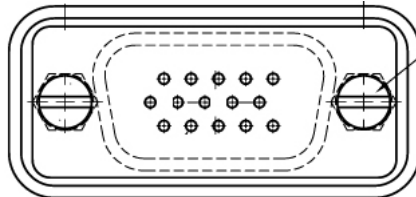

Figure 4 – DB15 (remote) Interface
2.4 DB15 (Remote) – The DB15 interface connector is a 15 pin male waterproof connector that can be used to simplify remoting and integrating the speaker into portable or vehicular tactical communications systems by using a single cable for power and audio connections. Figure 4 and Table 4 describe the DB15 interface.